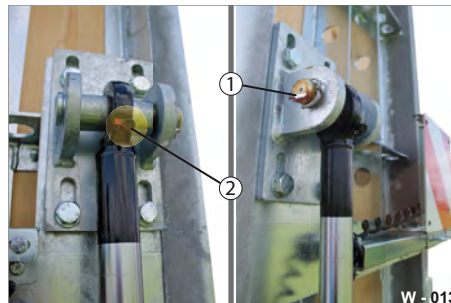

Fig. 16 Upper ramp bearing point, hydraulic cylinder
- ▶ Lubricate the bearing on the lubrication nipple (Fig. 16/2) with a grease gun until lubricant escapes.
- ▶ Lubricate the bolt (Fig. 16/1) with machine grease.